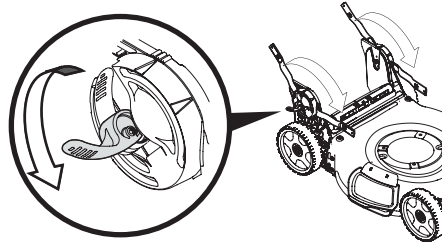

Figure 11
- Unlock the two handle release levers (Figure 11, inset).